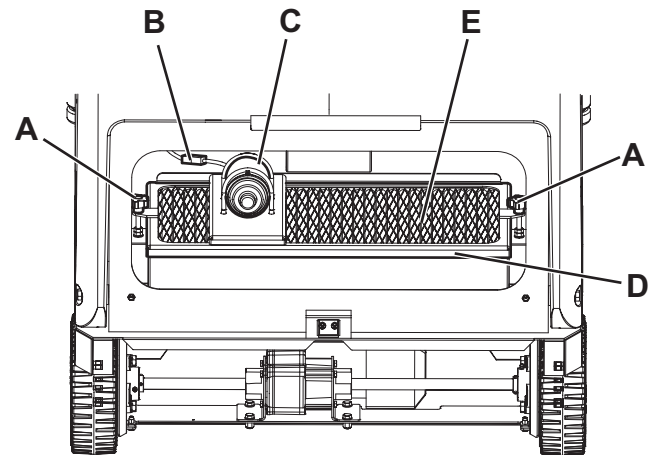
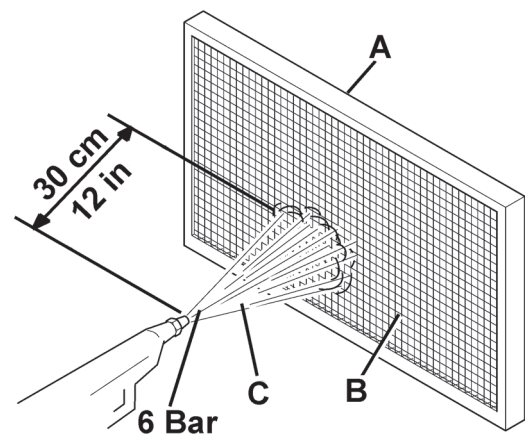

Figure 10
Figure 11
2. Turn the ignition key (72) to "0".
3. Disengage the hook (18) by pulling its lower end.
4. Remove the hopper (17) by using the handle (19) and by disengaging it from the inner guides.
5. Unscrew the knobs (33) and remove the filter compartment cover (32).
6. Loosen the knobs (A, Fig. 10).
7. Disconnect the filter shaker motor (C) connector (B).
8. Remove the dust filter fastening frame (D).
9. Remove the dust filter (E).
10. In an outdoor area, clean the filter by shaking it on a level and clean surface, tapping the side (A, Fig. 11) opposite to the wire gauze (B).
- Install the filter (E, Fig. 10) with the wire gauze (B, Fig. 11) facing upwards.